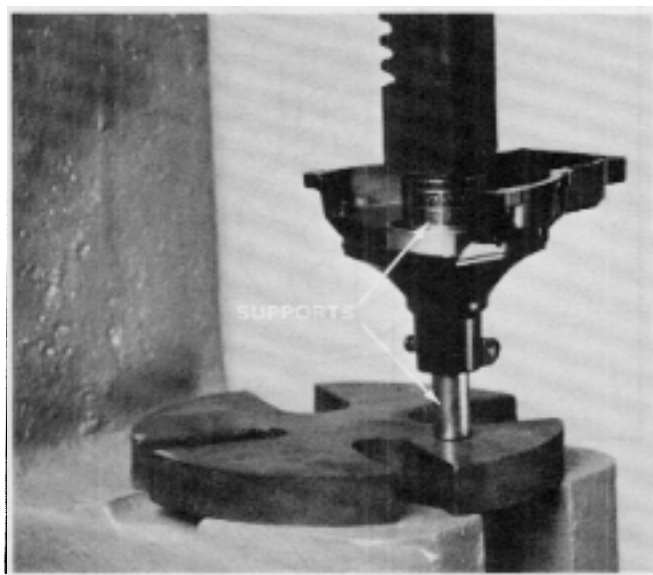

Figure 75
4. Support the **inner** race of the clutch housing bearing from the drive shaft end with a sleeve or deep well socket and press the clutch drum into the housing. See Fig. 75.